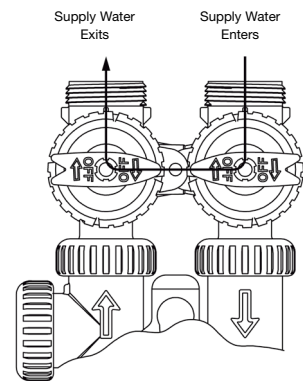

Figure 17:
- 3. Diagnostic Position:** The inlet handle points in the direction of flow and the outlet handle points to the center of bypass valve, system water pressure is allowed to the control valve and the plumbing system while not allowing water to exit from the control valve to the plumbing. (See Figure 17)